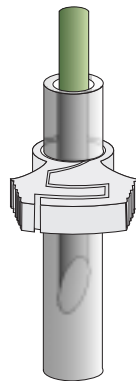

Figure 1
A number of teachers tell us that the most difficult part of performing the Transpiration experiment from *Biology with Computers* and *Biology with CBL* is getting a tight seal at the plant-tubing junction. We recently obtained a plastic hose clamp from Cole Parmer Instrument Company that solves this problem. In the past, it was necessary to select a portion of the plant stem slightly larger than the opening of the plastic tubing. The plant stem was then forced into the tubing, providing most of the seal and preventing any loss of water from the tubing. This is difficult to do and can lead to damaging the plant stem. Using the plastic hose clamp shown in Figure 1, the plant stem can be smaller than the tubing opening and still maintain a water-tight seal around the plant stem. The clamps are reusable and come from Cole Parmer in packages of 100 for \$17.00 (Cat. #FK-06832-01). While 100 clamps may seem like a lot, it never hurts to have a few extra since they are small and may get lost in the lab. Order from Cole Parmer at (800) 323-4340.